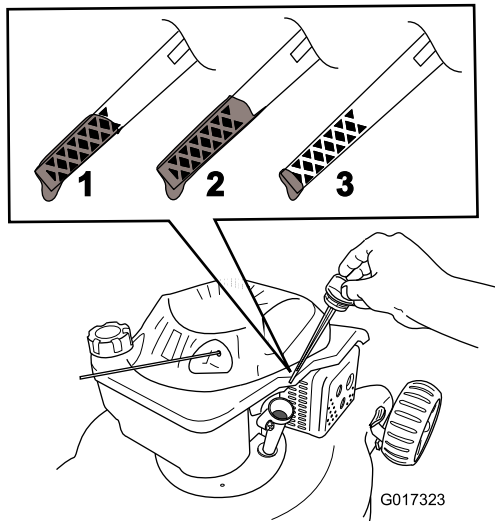

Figure 14
2. Remove the dipstick (Figure 14).
5. Remove the dipstick and read the oil level; refer to Figure 14.